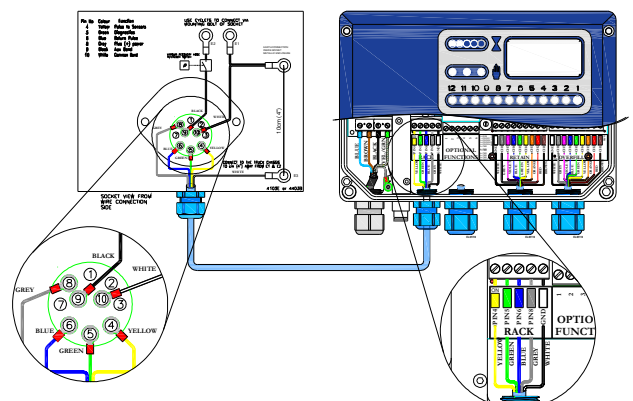

Figure 4
The housing provides four (4) M20 x 1.5 mm and one (1) M16 x 1.5 mm threaded holes all located at the bottom of the box. These holes are providing access to the various electrical terminals on the monitor via cable glands or conduit. The cable glands are numbered as shown in Figure 2. Number 1 must be used for power from the main Truck battery. OPW recommends the use of screened cable with matching cable gland or conduit. (number 2 is used for pressure sensing) The third (3) is an M16x1,5 threaded entry. Via a cable gland or conduit the 5-wire Rack interface can be connected to the socket, see **Figure 4** for details. Entry (4) is designed to feed true the cable for the retain (bottom) sensors. See **Figure 7**. The last and most right located cable entry (5) can be used for the overfill sensors.